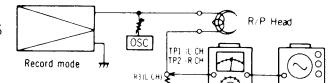

Fig. 21
<p>Measurement</p> <ol style="list-style-type: none"> Test equipment connection is shown in fig. 21. Place UNIT into record mode. Read voltage on VTVM and calculate bias current by following formula. $\text{Bias current (A)} = \frac{\text{Value read on VTVM (V)}}{10 (\Omega)}$ <p style="border: 1px solid black; padding: 5px; text-align: center;">Standard value: around $600\mu\text{A}$ (Metal position), around $310\mu\text{A}$ (Normal position), around $350\mu\text{A}$ (Fe-Cr position), around $420\mu\text{A}$ (CrO₂ position)</p>